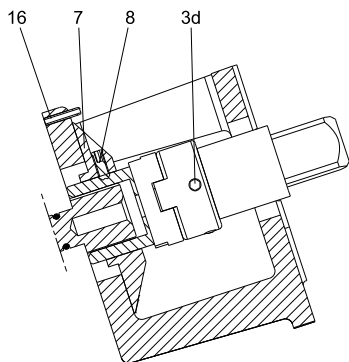

Fig. 4 Adjusting spindle with coupling
2. Loosen the grub screw (3d) in the coupling (see fig. 4).